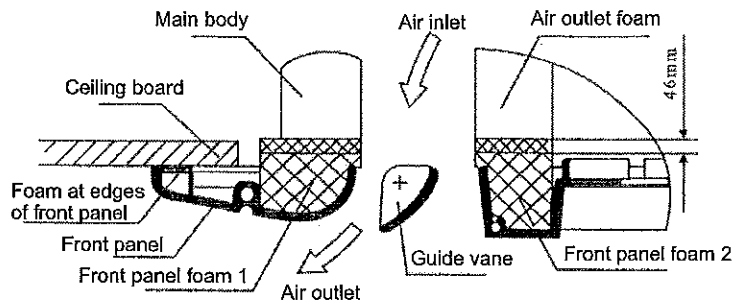

Figure 14
- Continue to evenly screw down the screws below front panel hook till the thickness of foam air outlet between main body and front panel is reduced to about 4~6mm, and that the edges of front panel contact the surface of ceiling board properly (see Figure 14);